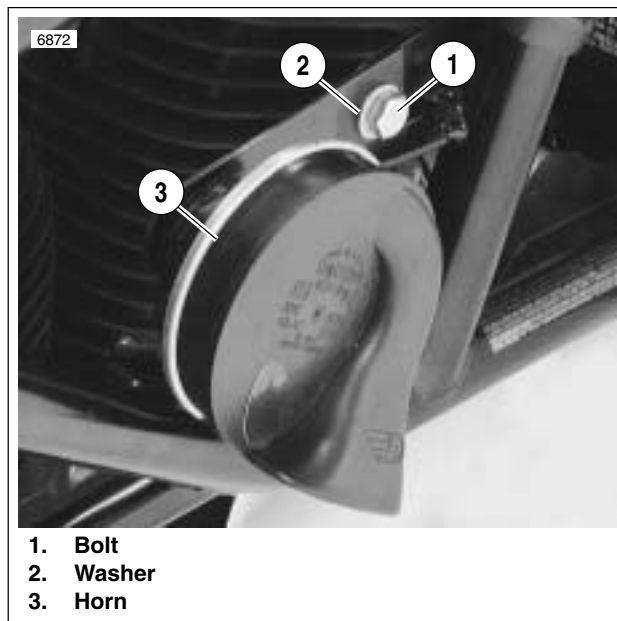
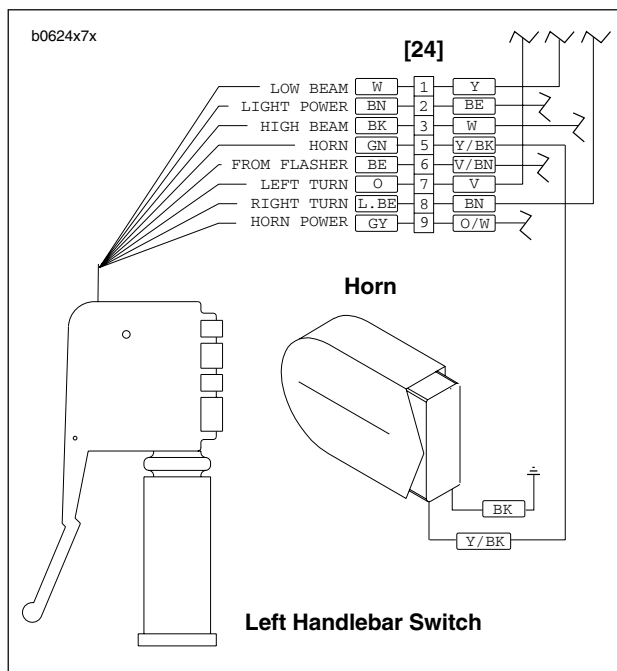

Figure 7-68. Horn Assembly
Figure 7-69. Horn Wiring
4. See Figure 7-68. Remove bolt (1) and washer (2).
5. Remove horn (3) from frame.
6. See Figure 7-69. Detach Y/BK power wire and BK ground wire from terminal clips on back side of horn.
1. See Figure 7-69. Connect Y/BK power wire and BK ground wire to terminal clips on back side of horn.
2. See Figure 7-68. Attach horn (3) to frame using bolt (1) and washer (2).
- a. See Figure 7-69. Remove Y/BK power and BK ground wires from terminal clips.